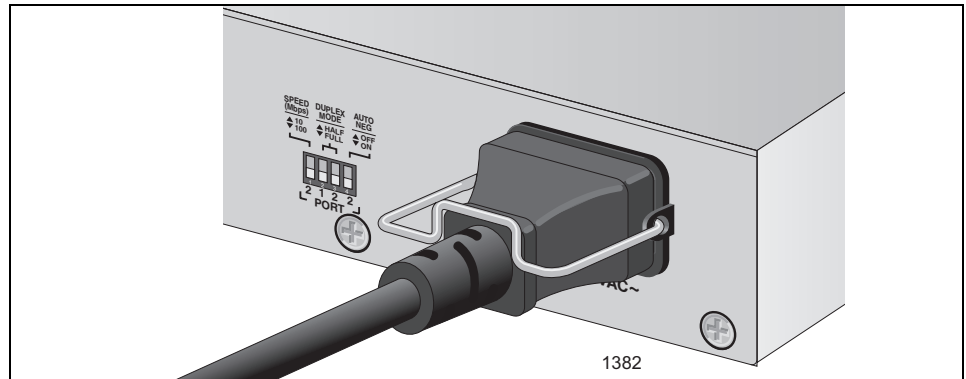

Figure 16. Securing the Power Cord with the Retaining Clip
3. Lower the power cord retaining clip to secure the cord to the AT-PC232/POE Media Converter, as shown in Figure 16.